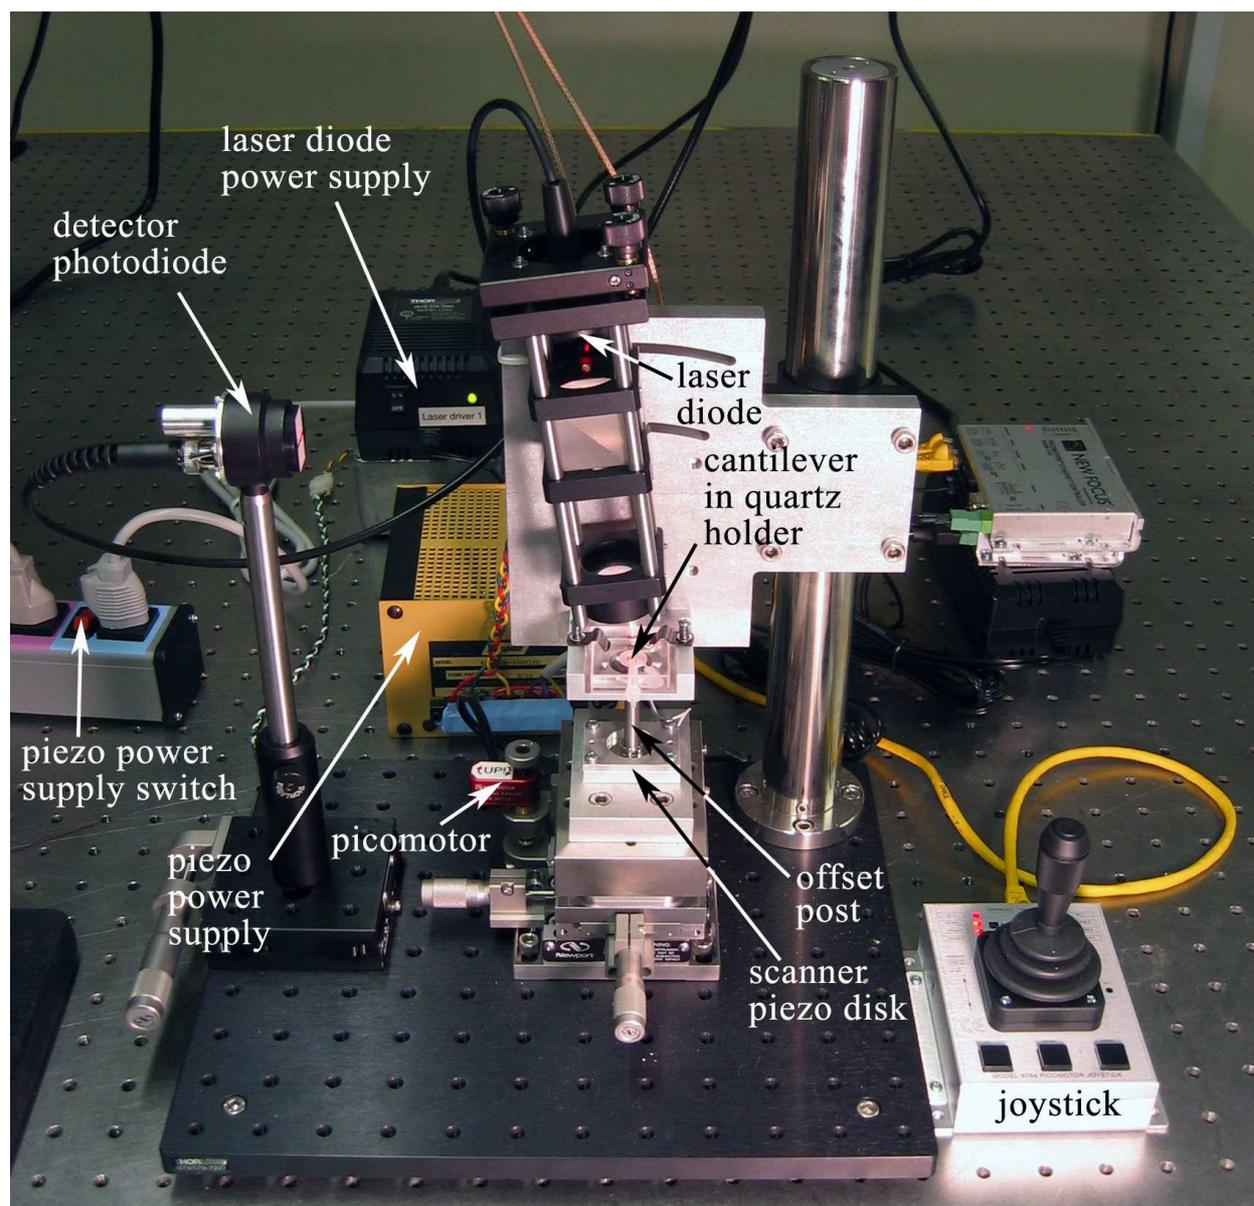

Figure 1: The AFM setup, with major components indicated.
A photo of our AFM setup is provided in Figure 1 for you to refer to as you learn about the instrument. Start by physically examining the setup and identifying all the parts described below.
For our AFMs to run, you must turn on three things: (1) the detection laser, (2) the photodetector, and (3) piezo-driver power supply. The photodetector has a battery that provides reverse bias, and the others have dedicated power supplies (refer to Figure 1 for where these switches are located). *When you finish using the AFM, don't forget to turn off the three switches you turned on at the beginning.*